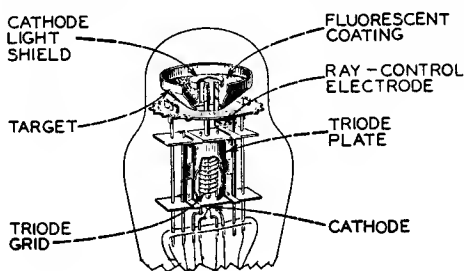

Fig. 43
two main parts: (1) a triode which operates as a d-c amplifier and (2) an electron-ray indicator which is located in the bulb as shown in Fig. 43. The target is operated at a positive voltage and therefore attracts electrons from the cathode. When the electrons strike the target they produce a glow on the fluorescent coating of the target. Under these conditions, the target appears as a ring of light.